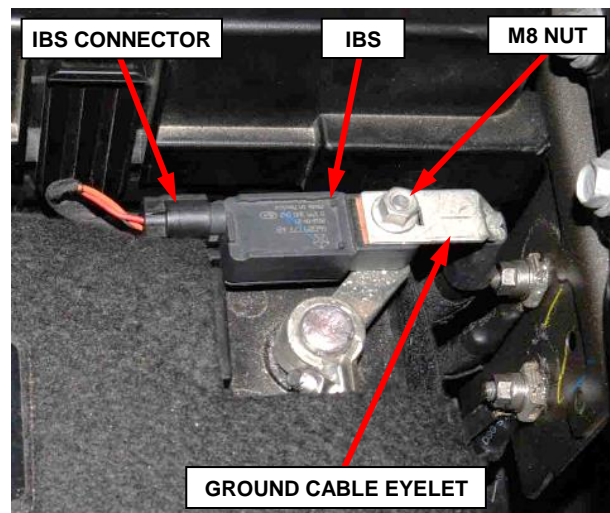

Figure 2 – Battery Negative Terminal
5. Disconnect the Intelligent Battery Sensor (IBS) wire harness connector (Figure 2).
6. Remove the ground terminal M8 hex nut. Position and secure the ground cable eyelet away from the battery terminal (Figure 2).